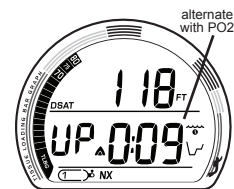

Fig. 84 - PO2 ALARM
- > After the Audible is silenced, DTR will alternate with the PO2 value, and the graphic UP and Up Arrow icon remain on solid (Fig. 84) until PO2 decreases below the warning level when they are removed.